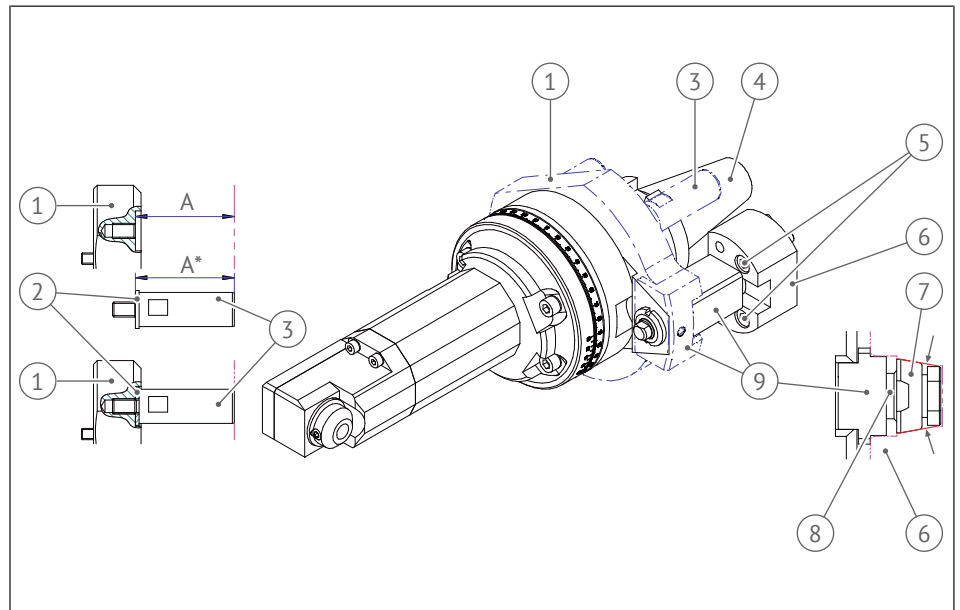

Fig. 8: Installing the product – overview
5. Adapt the adjusting element according to the red markings in Figure 8 so that the locating pin correctly contacts the stop block.